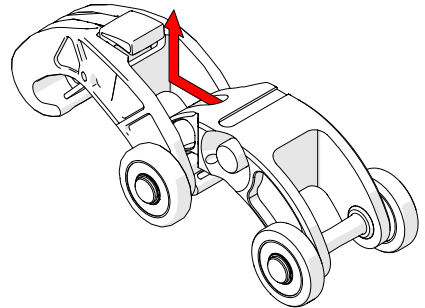

Fig. 51 - Slide Dovetail QuickLink forward and lift
2. While pressing the red button, slide the Dovetail QuickLink forward and up, clearing the hook of the Dovetail QuickLink from the 2nd QuickLink's axle (Fig. 51).